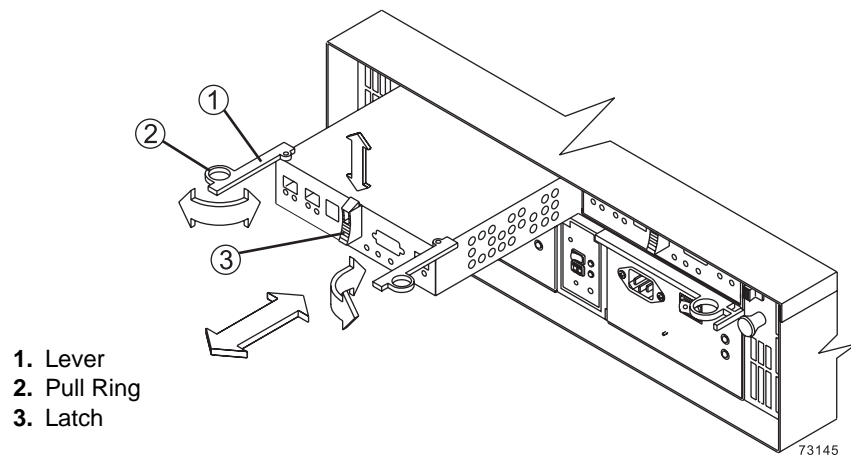

Figure 4-2 Removing and Replacing a Controller
9 Remove the failed controller. Figure 4-2 illustrates the following steps:
- 15 Slide the replacement controller all the way into the empty slot and lock the levers into place. Figure 4-2 on page 4-3 illustrates removing and inserting a controller.